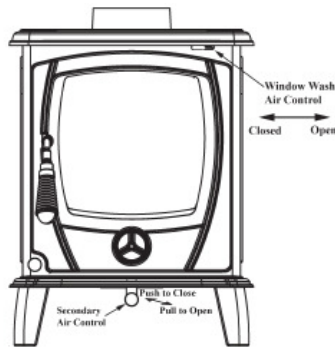

Figure 2
3. Set the secondary air slider to the required position depending on the fuel being burned i.e. open when burning wood/coal and closed when burning anthracite (see Figure 2).
4. Open the window wash control by sliding it to the right (See Figure 2).